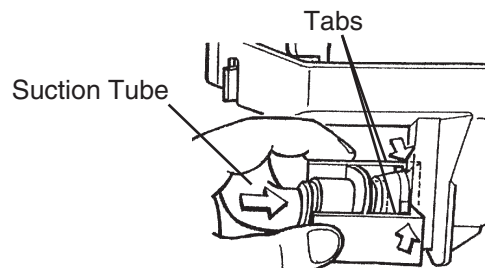

Fig. 25
- 7) Reconnect the suction tube as illustrated. See Fig. 25. Make sure the tabs lock into place; a loose fitting may cause a water leak.